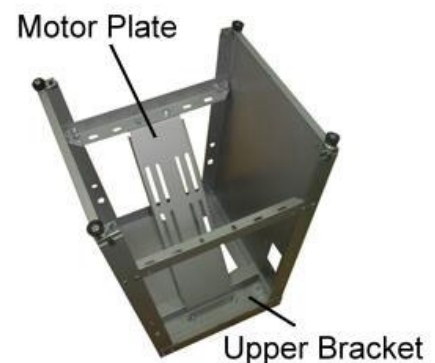

Fig.7
3. Attach the motor plate with the upper bracket to the inside of the stand as shown in (Fig.7) using M8 carriage bolts x2 ,M8 Washer x2 and M8 Nut x2